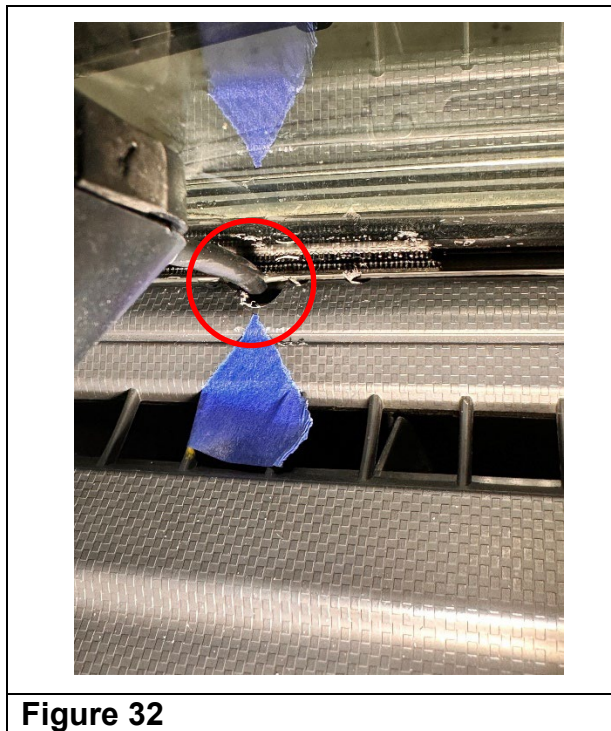

Figure 32
27. Remove the block or item used to maintain the gap between the IP and the windshield and set the IP back into place. Make sure that the camera cable is routed through the new notch in the IP. (See Figure 32.)